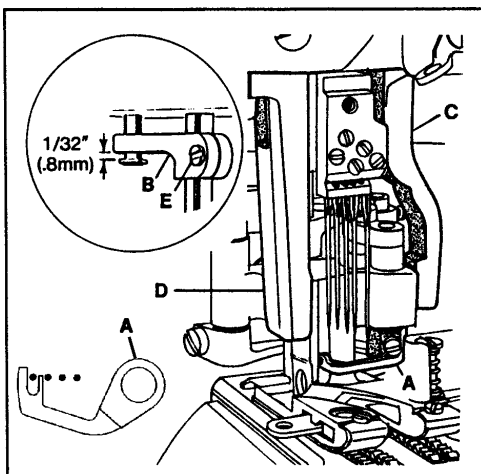

FIG. 20
Remove the presser bar regulating screw and the presser spring. Raise the needle bar to its highest position and remove the retainer. As the foot is slipped under the needles, swing the upper knife into the opening on the right side of the foot and slide the linkage onto the hook driving sleeve. Insert the presser bar through the linkage and into the presser foot shank. Tighten presser foot screw. With the presser bar inserted properly into the presser foot, position the foot left to right so the finger of cover thread carrier (A, Fig. 20) is between the first and second needles. Set presser bar guide (B, Fig. 20 Inset) so foot will not move. Set right presser foot guide (C) and left presser foot guide (D) to maintain setting. Loosen presser bar guide screw (E Fig. 20 Inset) and check to see that foot has vertical freedom with no right to left play, no bind. Put the needle bar is in its lowest position, and set 1/32" (0.8mm) above head of presser bar guide stud. Tighten presser bar guide screw (E).
Turn the handwheel in operating direction until link (A, Fig. 20) has traveled fully to the front. There must be a 1/64" (0.4mm) clearance between link (A) and the back of needle head (B) when link (A) starts to jackknife. Loosen screw (C) and rotate driving sleeve (D) to position link (A). Tighten screw (C).